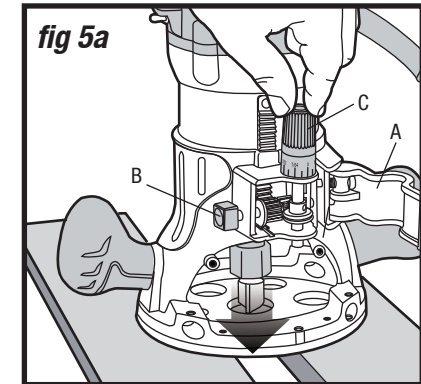

fig 5a
3. Loosen the Motor Clamp (A).
4. With the cutter bit already installed, press the Rough-adjustment Knob (B), and lower the motor to the base until the cutter bit is very close to the flat surface on which the base is sitting.
5. Turn the Micro-fine Adjustment Dial (C) until the cutter bit "just" touches the flat surface on which the base is sitting.
9. Place the router on two level scrap workpieces, positioned so that the cutter bit can be lowered below the sub-base (fig 5a).